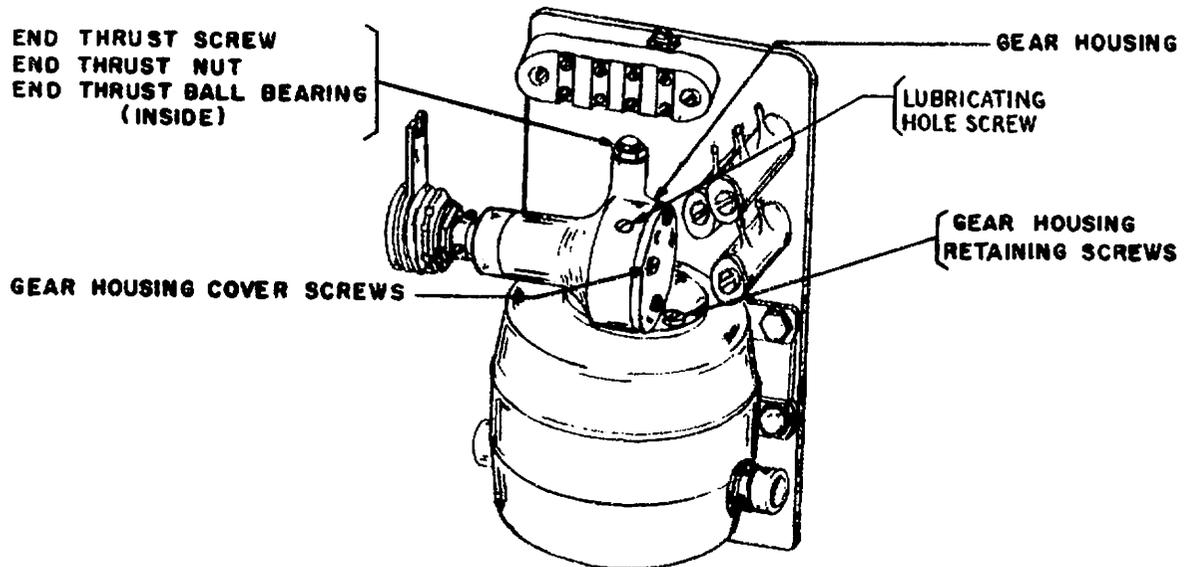

Figure 3 - Gear Housing Assembly
- (1) Disconnect the plug from the power supply.
- (2) Remove the paper-winder cover by removing the screw from the rear of the paper winder and backing off the other two screws. (The cover has two slotted mounting holes.)
- (3) Depress the latch and remove the paper-winder spindle from its mounting to allow easier installation of the new parts.
- (4) Remove the four screws, flat washers, and lockwashers which hold the motor to the bracket, taking care not to loosen any electrical connections.
- (5) Remove the end-thrust screw, nut, and ball bearing from the gear housing, shown in Figure 3, taking care not to mislay the bearing.
- (6) Remove the gear housing from the motor end bell by removing the three screws, shown in Figure 3, taking care not to damage or mislay the gasket. Then remove all excess grease from the pinion and motor end bell.
- (7) Remove all grease from the gear housing.
- (8) Drive out and dispose of the pins that hold the pinion to the motor shaft and the fiber gear to the gear housing shaft. Remove and discard both the pinion and the fiber gear.